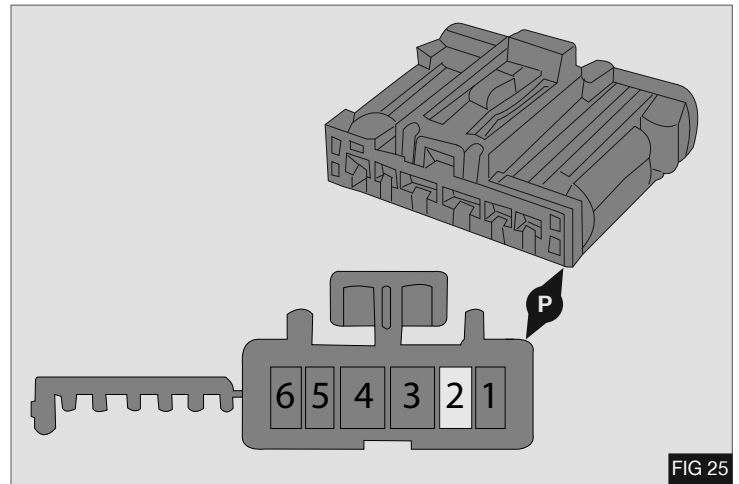

FIG 25
5. The fast idle is activated by connecting pin 2 of the 6 way connector (P) to earth – Fig 25